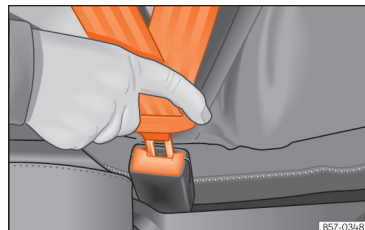

Fig. 26 Insert the latch plate of the seat belt into the buckle.
- Insert the buckle plate in the buckle of the correct seat » » » Fig. 26.